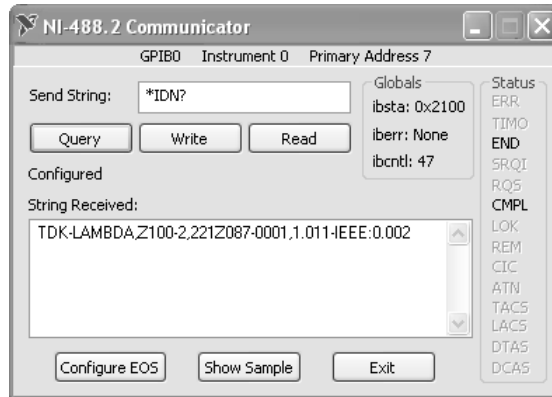

Fig.5-3: ID String Query
- Click Communicate with Instrument in the GPIB Explorer toolbar. NI-488.2 Communicator appears. Refer to Fig. 5-3
- In the Send String box, \*IDN? appears. Click Query. The ID string indicates the model, serial number, firmware version and the GPIB card firmware version. This will be shown in the text box below String Received. Refer to Fig.5-3.